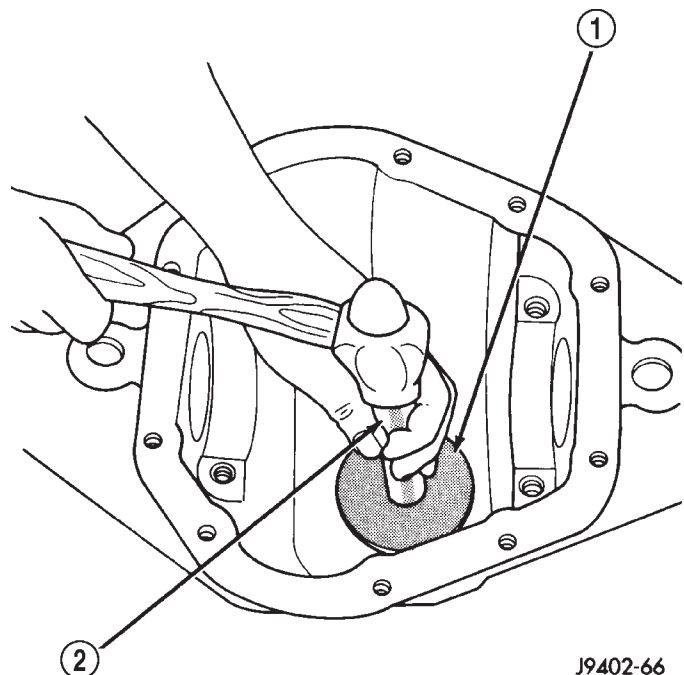

Fig. 43 Rear Pinion Bearing Cup Installation
(1) Install a new oil slinger of the same thickness as the original into the rear pinion bearing bore of the axle housing.
(2) Apply Mopar® Door Ease, or equivalent, stick lubricant to outside surface of rear pinion bearing cup. Install the bearing cup with Installer D-146 and Handle C-4171 (Fig. 43). Verify cup is correctly seated.